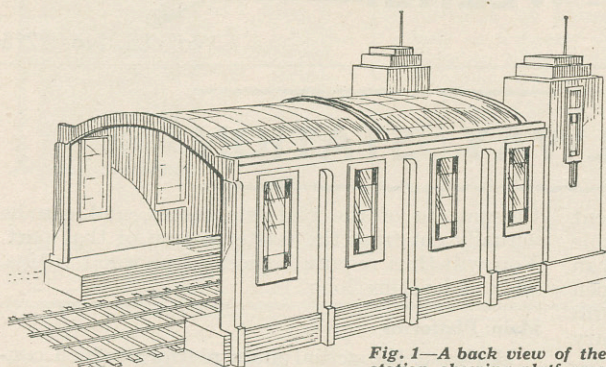

Fig. 1—A back view of the station, showing platforms
**T**HE design this week is for making an excellent model of a modern railway terminus suitable for use with any Gauge O railways. As can be seen by the back view at Fig. 1 there is an open end into which the trains can be run with platform on each side, the correct height of the ordinary rolling stock.